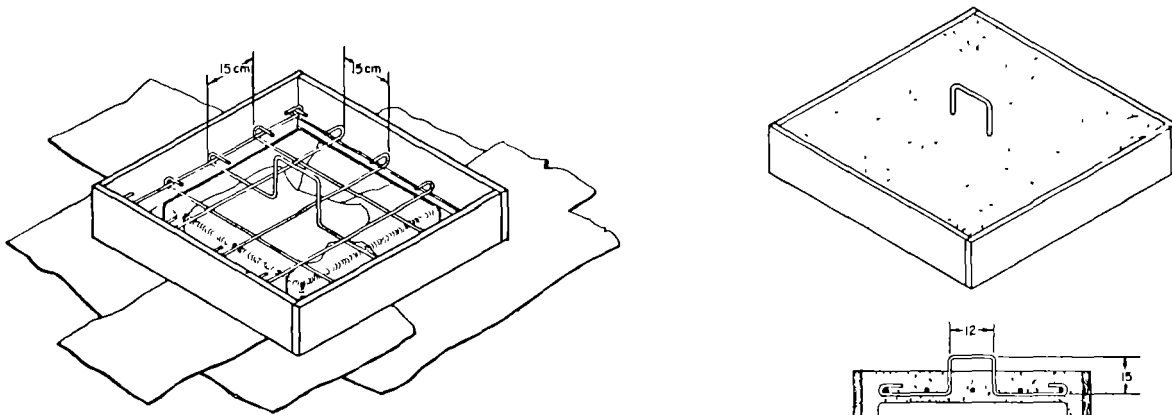

Figure 8. Hatch Cover Handle Detail
Center the large cover form around the small cover form. Place and tie 10 mm (3/8 inch) reinforcing bars on fifteen (15) cm centers. Bend one piece of bar as shown to make a handle. Pour the hatch cover when pouring the concrete for the apron. The completed cover should resemble Figure 8.